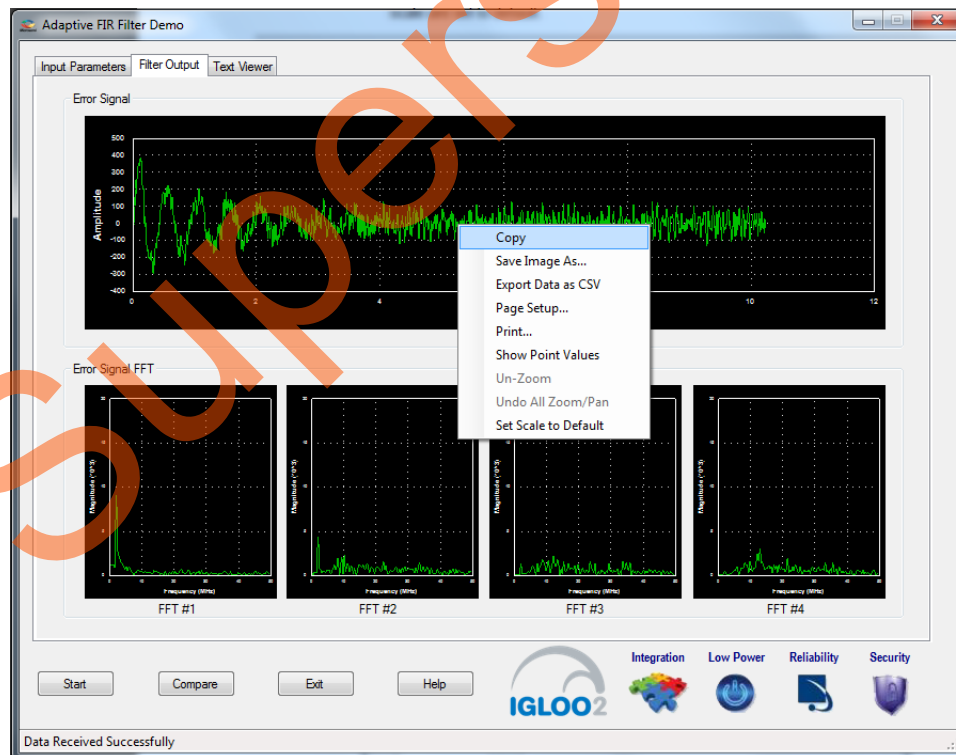

Figure 24 • Error Signal - GUI Options
13. It shows the different options as shown in Figure 24. The data can be copied, saved, and exported to CSV plot for analysis purpose. Page setup, print, show point values, Zoom, and set scale are set to default.